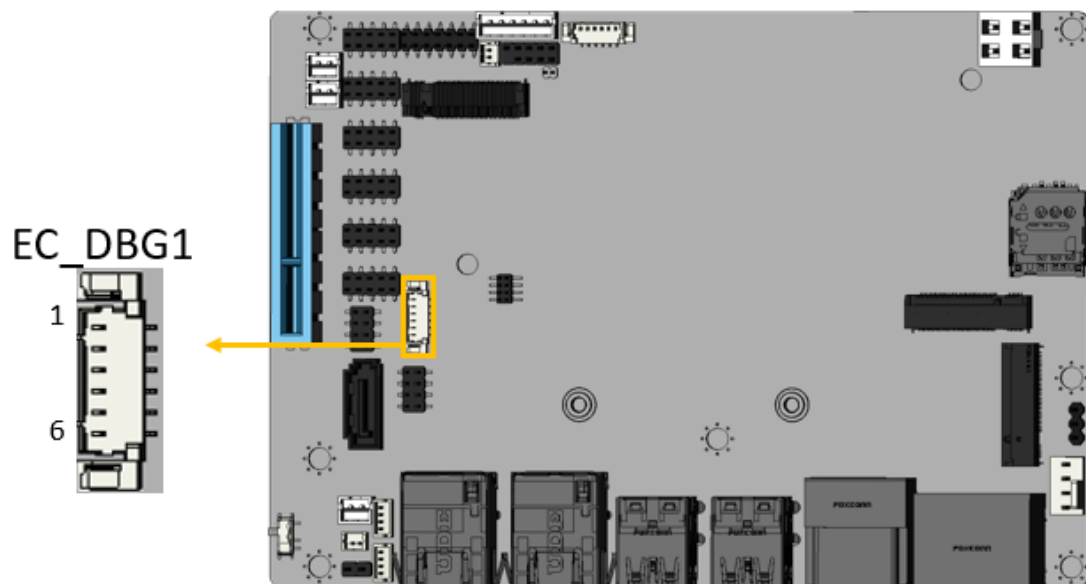

Figure 3-23: EC Debug Connector Location
- CN Location:** See Figure 3-23